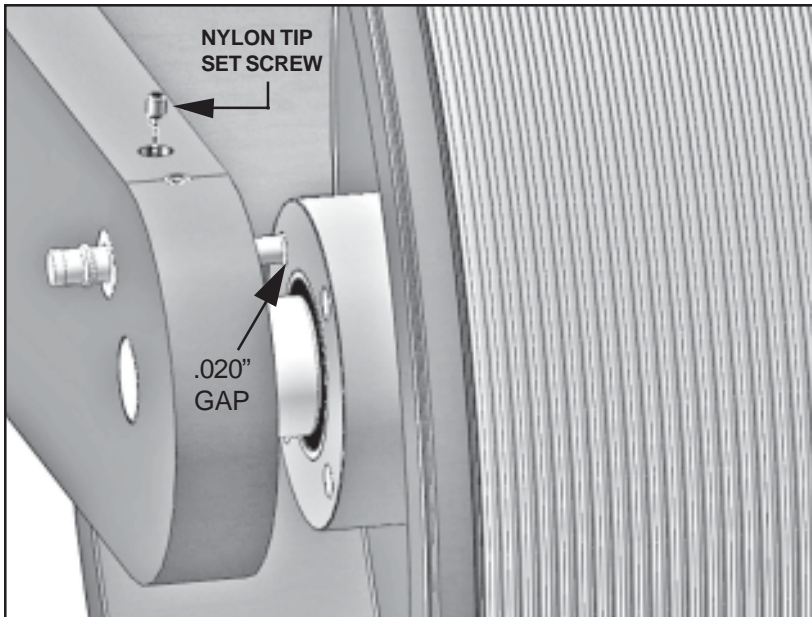

FIGURE 35
1 - To remove or readjust the inductive proximity sensor, you must first **slightly** loosen the nylon tip set screw which holds the sensor in position. Using a 5/64" hex driver, turn it approximately 1 revolution in the counter clockwise direction. This set screw can be reached through the access hole in the top of the frame as shown in Figure 35. You do not need to take the set screw completely out of the plastic isolator bushing, so we recommend you just loosen it enough to adjust the sensor. If you take the set screw completely out, it will be somewhat difficult to reinstall.
3 – The Inductive Proximity Sensor has a very short distance sensing range and must be adjusted precisely for proper operation, here is the easiest way to adjust this sensor. Position a 0.020" shim between the face of the sensor and the hub of the print drum as shown in Figure 35. While holding the shim between these two surfaces, turn the sensor Clockwise (CW) until the face of the sensor just pushes the shim into contact with the hub of the print drum. When the sensor is in this position, slightly tighten the nylon tip set screw to prevent the sensor body from turning.